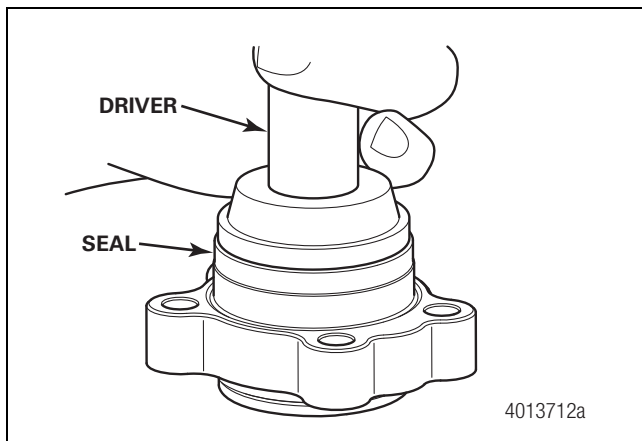
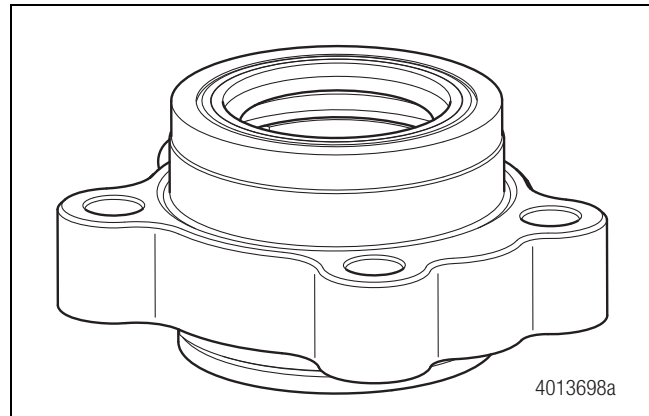

Figure 11.48
Figure 11.49
12. Press the seal in until it is flush against the housing. Figure 11.48 and Figure 11.49.